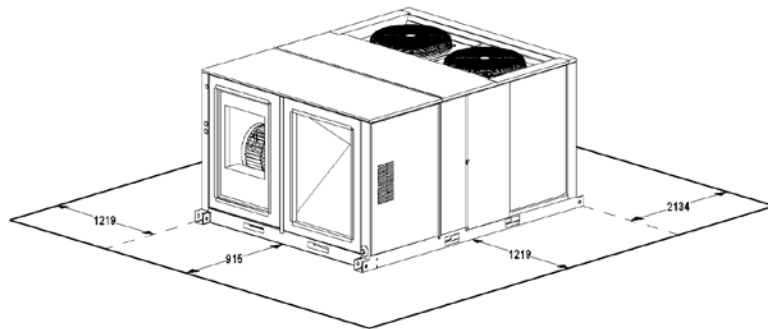

Fig. 3 Unit Clearance Diagram
- Ensure access to the components (see “Unit Dimensional Drawings” Fig 1 & 2 & “Clearance Diagram” Fig 3).